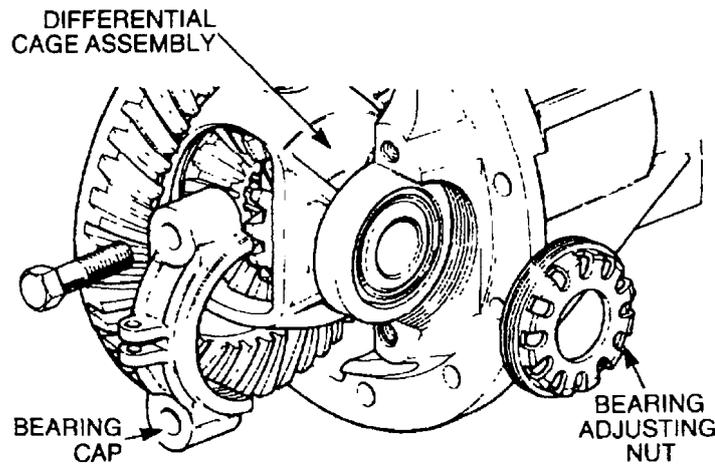

Figure 237 Installing the Differential Cage
- g.** Insert the differential cage assembly in the carrier and install the bearing caps and retaining bolts (Figure 237). Do not tighten the bolts at this stage.
- ee. Install the differential assembly in the differential carrier and fit the bearing caps and bolts ensuring that the caps are correctly installed to their relative match marks (Figure 237).
- ff. Install the two bearing adjusting nuts and tighten them until all end float is taken up. Firmly tighten the bearing cap bolts. Do not fully tighten them at this stage (Figure 237).